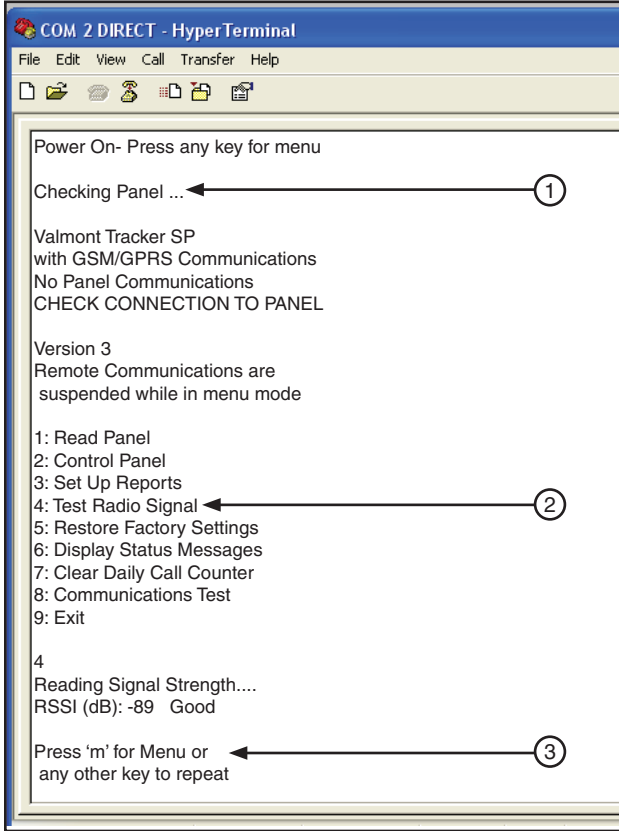

Figure 27-1
1. At the computer, press and release the enter key until "Checking Panel" is displayed. Connection to the control panel is tested, then the Main Menu is displayed. This may take several minutes. See figure 27-1.
2. At the Main Menu, press 4 to run a Signal Strength test. Depending on local conditions this test may take several minutes. See figure 27-1.
The signal strength test displays the signal strength in decibels and text. Compare the signal strength to the chart. See figure 27-1.